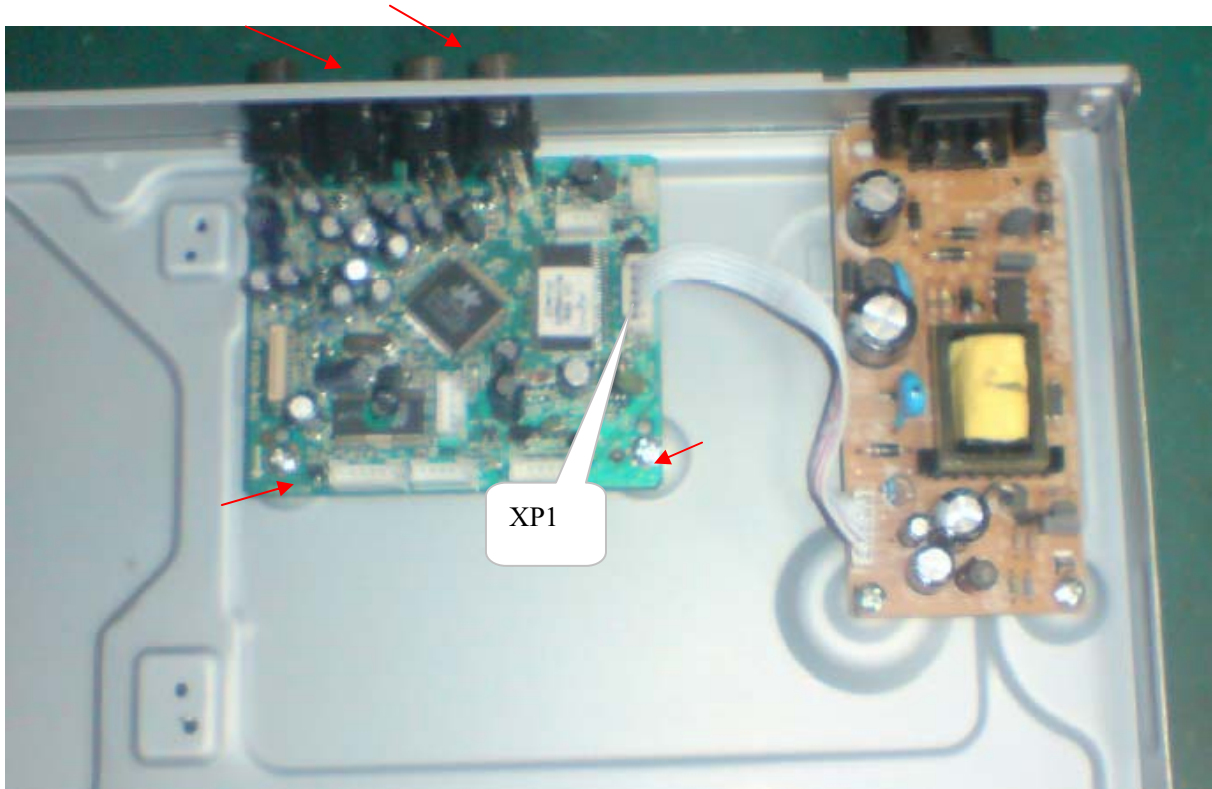

Figure 8
**Step6:** Dismantling Main Board, first disconnect the connector (XP1), and then remove 4 screws. (Figure 8)